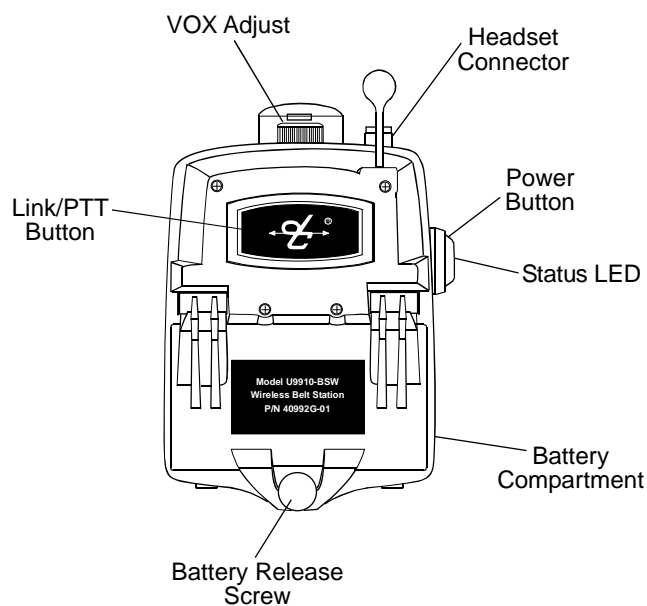

Figure 1: Overview of Belt Station
The U9910-BSW(EU) has an innovative voice activation (VOX) system. VOX is intended to prevent background noise from being unintentionally picked up by the microphone while detecting and allowing voice communications. The VOX knob (see **Figure 1**) controls the threshold at which the mic becomes “hot”. When the mic is hot you will hear your own voice and other connected users will hear you as well. Pressing the PTT button will automatically make the microphone “hot” for as long as the PTT is held down, regardless of VOX setting.
All David Clark 9900-series wireless belt stations and battery operated controllers use a 3.7V Li-Polymer rechargeable battery. This battery is removed by loosening the battery release screw (See **Figure 1**). These batteries are charged with the A99-04CRG 4-bay battery charger (41034G-01).